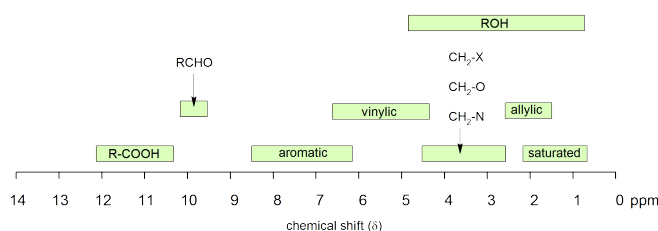

Figure 29.9j. Chemical shifts for proton NMR of functional groups (credit: Map: Organic Chemistry \(Wade\), CC BY-NC-SA 4.0).
It is important to understand trend of chemical shift in terms of NMR interpretation. The proton NMR chemical shift is affected by nearness to electronegative atoms (O, N, halogen) and unsaturated groups ($\text{C}=\text{C}$, $\text{C}=\text{O}$, aromatic). ^1H chemical shifts play a role in identifying many functional groups. Infographic 29.9a. and Figure 29.9j. indicate chemical shifts of important functional groups. Tetramethylsilane (TMS) is generally used for standard to determine chemical shift of compounds: $\delta_{\text{TMS}}=0\text{ppm}$. In other words, frequencies for chemicals are measured for a ^1H or ^{13}C nucleus of a sample from the ^1H or ^{13}C resonance of TMS.
Table 29.9a. lists the chemical shift values are in parts per million (ppm) relative to TMS. The listed values may vary slightly from Figure 29.9j. and Infographic 29.9a. Note, Hydrogen (H) is underlined in each hydrogen type.